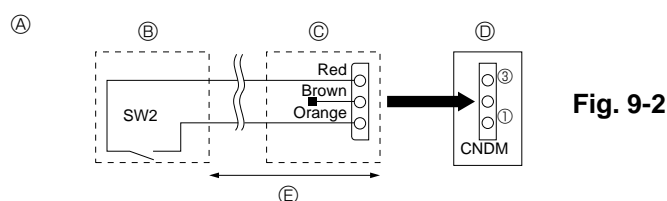

Fig. 9-2
- ① Circuit diagram example (Demand function)
② On-site arrangement
③ External input adapter (PAC-SC36NA)
④ Outdoor unit control board
⑤ Max. 10 m
9.2. Demand function (on-site modification) (Fig. 9-2)